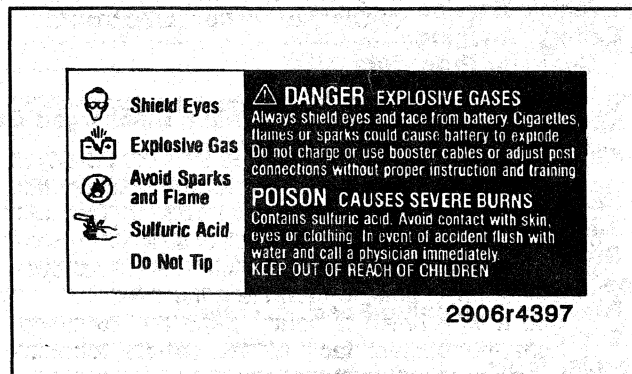

Figure 3—Safety Precautions
**CAUTION:** Follow all safety precautions. Refer to Figure 3.
The following procedure should be used for testing batteries (Figure 3):